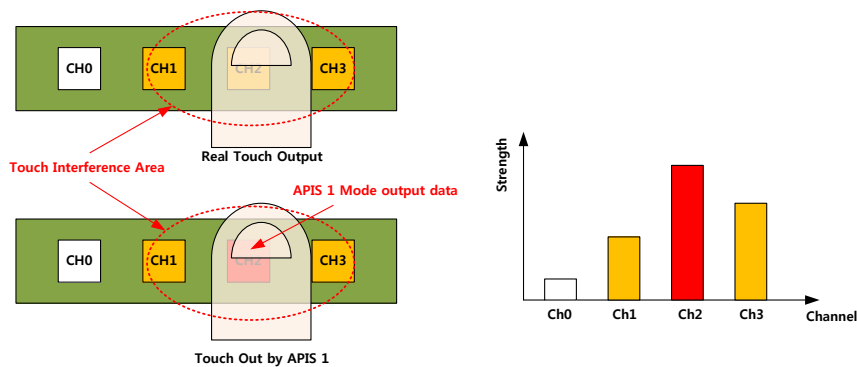

Figure 3: Operation of APIS mode 1
- APIS mode 1:** reports the strongest output only (Figure 3).